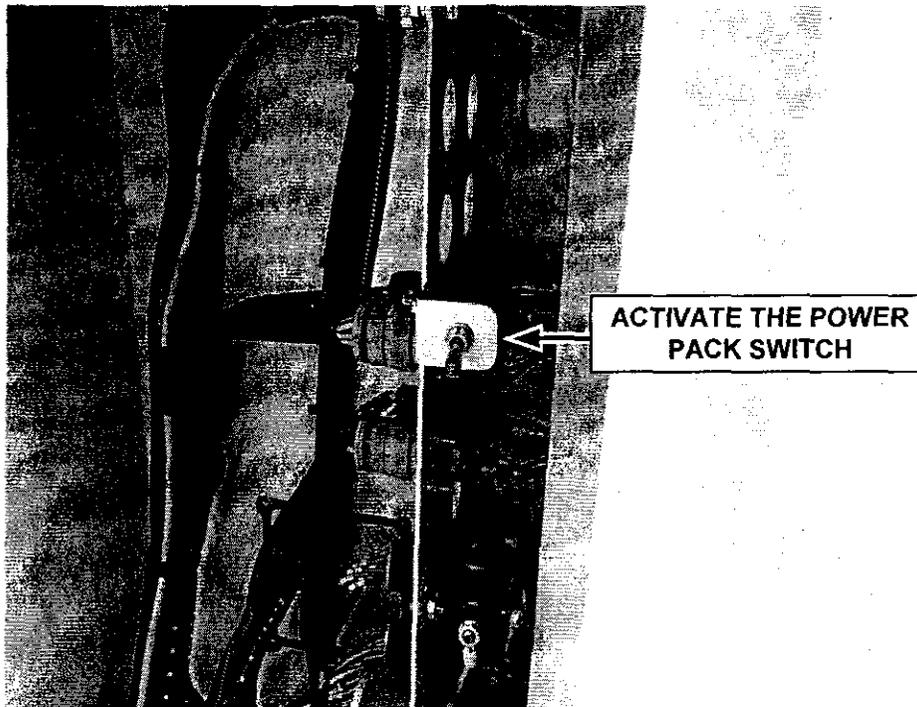

FIGURE 35
3. Locate the power pack switch inside the operator's console, just behind the panel door (figure 35).